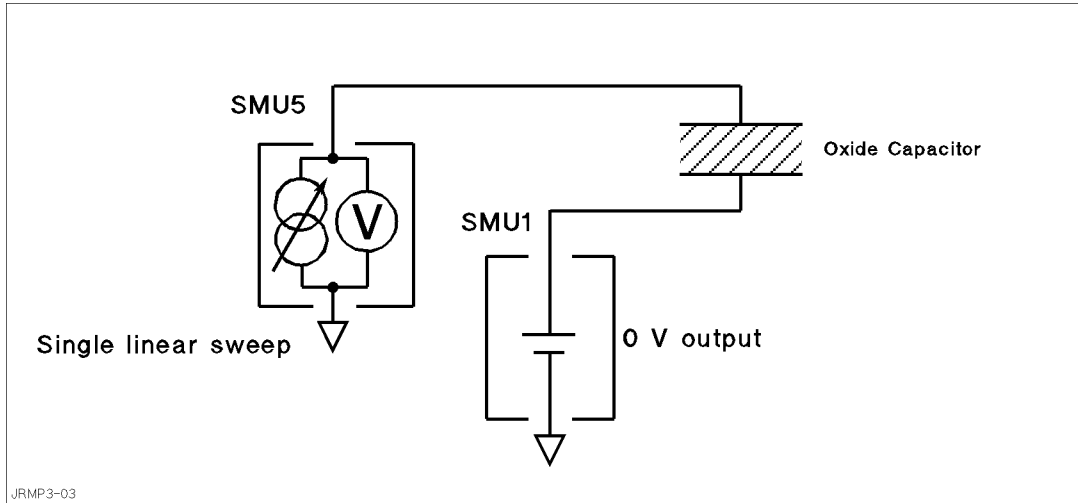

Figure 3-3. Simplified Measurement Circuit of J-Ramp Stress Test
- SMU channel definition (see Figure 3-3):
The sample program assumes the connection between the SMUs and the oxide capacitor as shown in Figure 3-3.